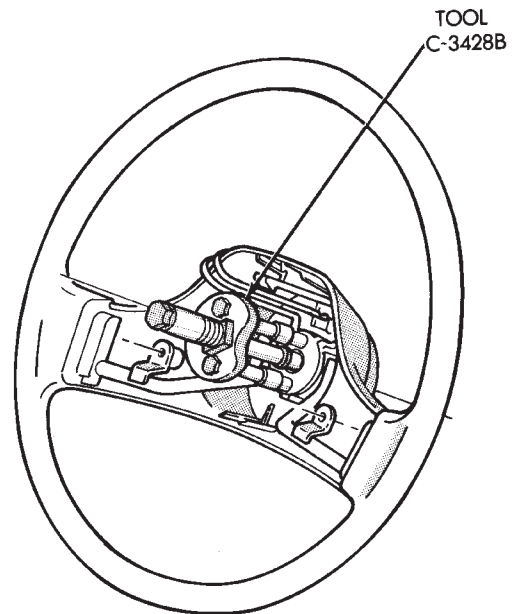

Fig. 4 Removing Steering Wheel (Typical)
(5) Remove the steering wheel retaining nut from the steering column shaft. Remove steering wheel from shaft using Puller, Special Tool C-3428-B (Fig. 4). **Do not bump or hammer on steering column shaft to remove wheel.**